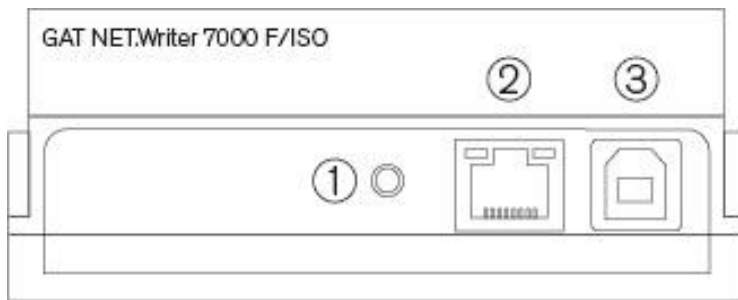

Figure 4.7 – Reset button
- Keep the RESET button (1 in Figure 4.7) pressed in for 5 seconds.
- Reconnect the power supply while holding the RESET button (1 in Figure 4.7) pressed in.